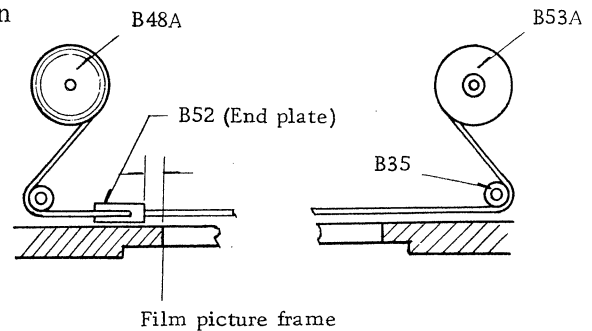

Fig. 12
- a. When the light shielding curtain is positioned correctly and the light shielding curtain is set to the open position, the end plate stops at a position 0.5 mm from the film picture frame as shown in Fig. 12.
(Fig. 12 and 13)